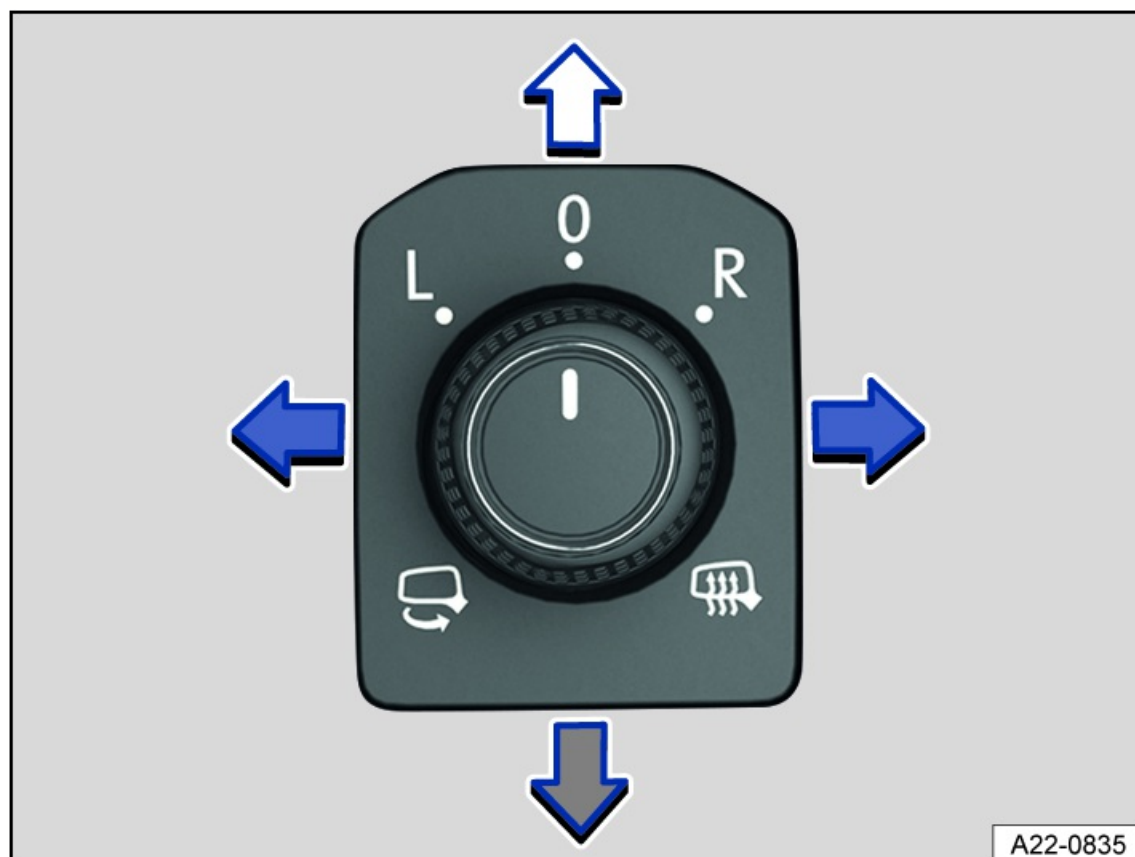

Fig. 78 In the driver door: knob for the outside mirrors.
2. Turn the knob in the driver door to the preferred symbol fig. 78.